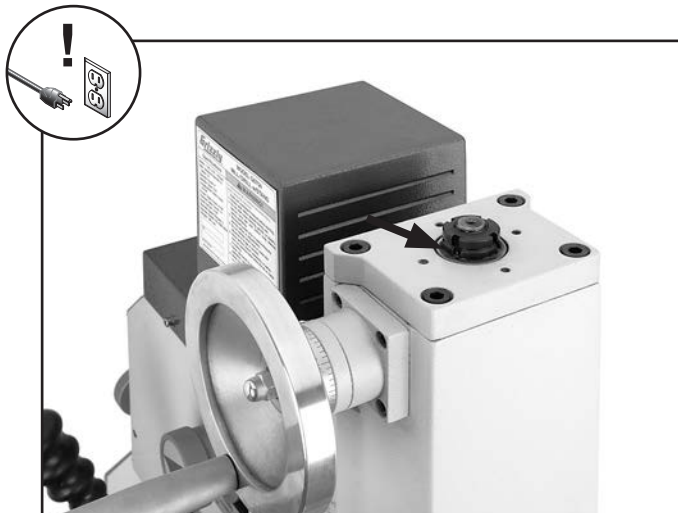

Figure 52. Bushing oil location.
3. Apply several drops of light machine oil to the bushing edge, then rotate the vertical handwheel to disperse the oil (**Figure 52**).